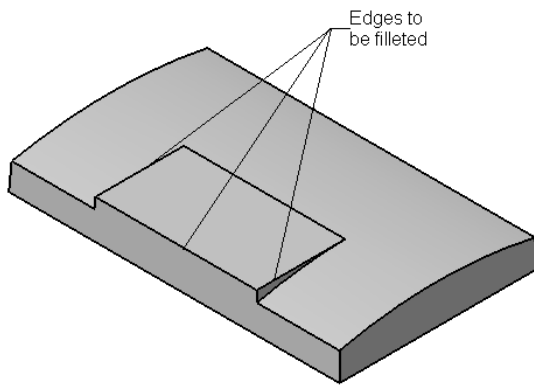

Figure 6-97 Edges to be filleted
- d. Fillet the edges of the model, refer to Figures 6-97 through 6-102.
2. Select the edges, as shown in Figure 6-97 and set the value of the **Radius** spinner to **3**.